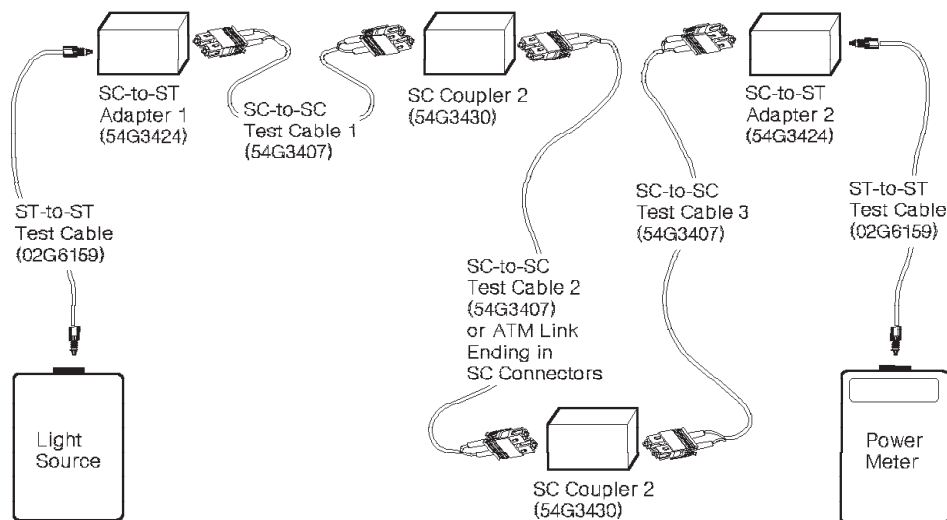

Figure 3-6. Obtaining the ATM End-to-End Link Loss Using the Fast-Path Method
- ATM, FICON, or GbE links, see Figure 3-6 on page 3-25.